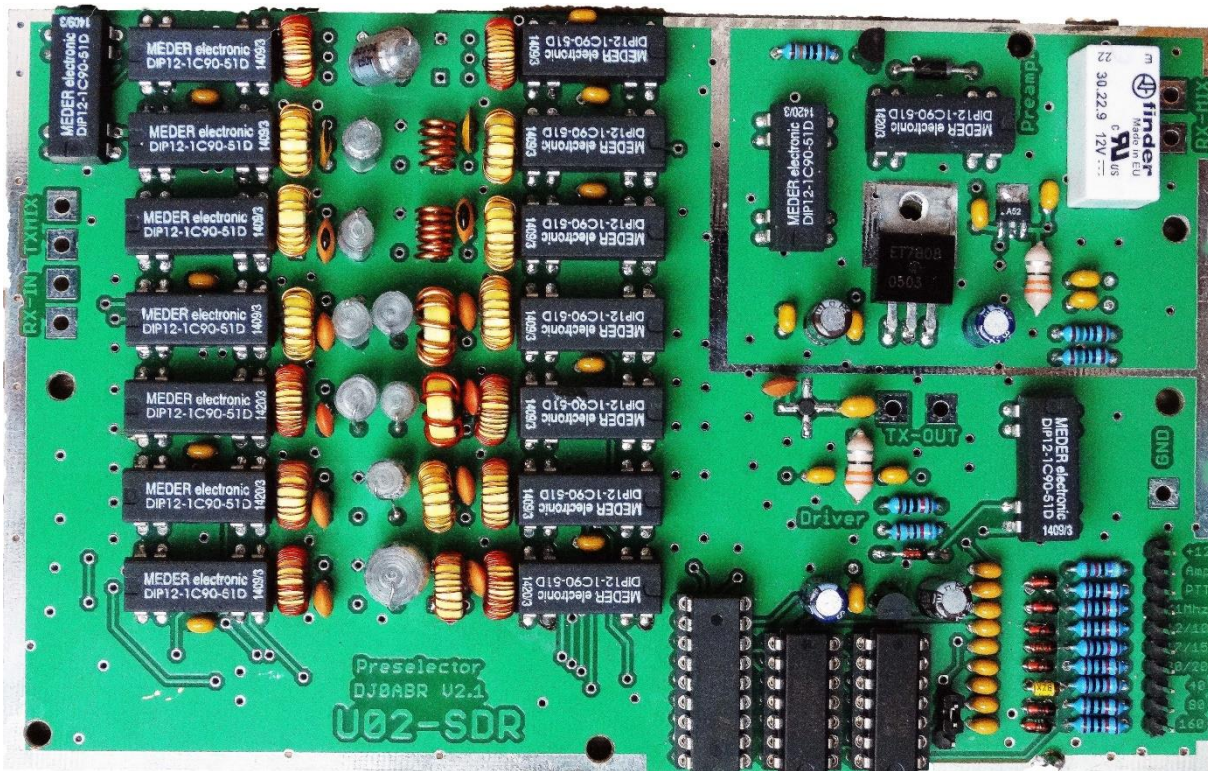

Fig. 31, Component side, Preselector.
5.14. The completed Preselector, fig.31.